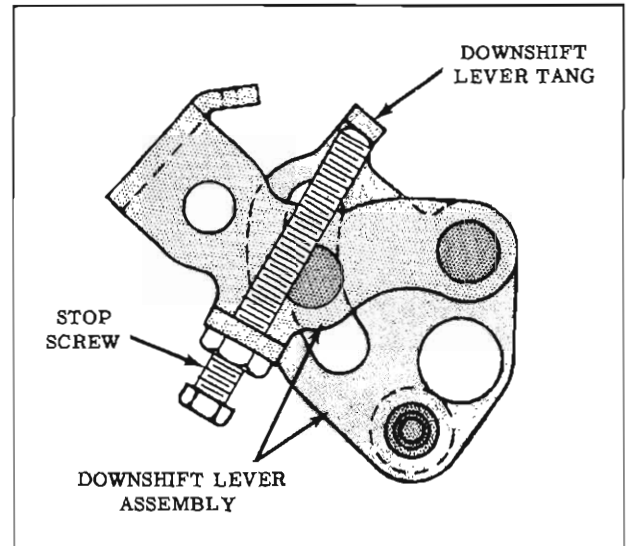

Fig. 6-128 Throttle Downshift Stop Screw Adjustment
- c. Allow the throttle valves to return to a closed position, then turn stop screw in 1-1/2 to 2 turns and tighten jam nut. (Fig. 6-128)